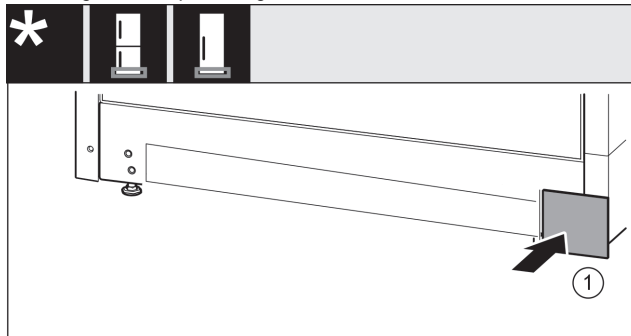

Fig. 23
- ▶ Re-attach the cover Fig. 23 (1) to the other side.